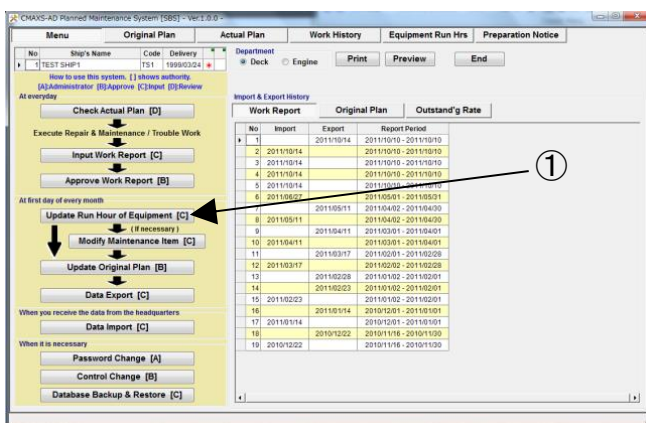

Fig.9-1 Menu Screen
(1) On the "Menu screen" (Fig.9-1), select [Update Run Hour of [Equipments]].